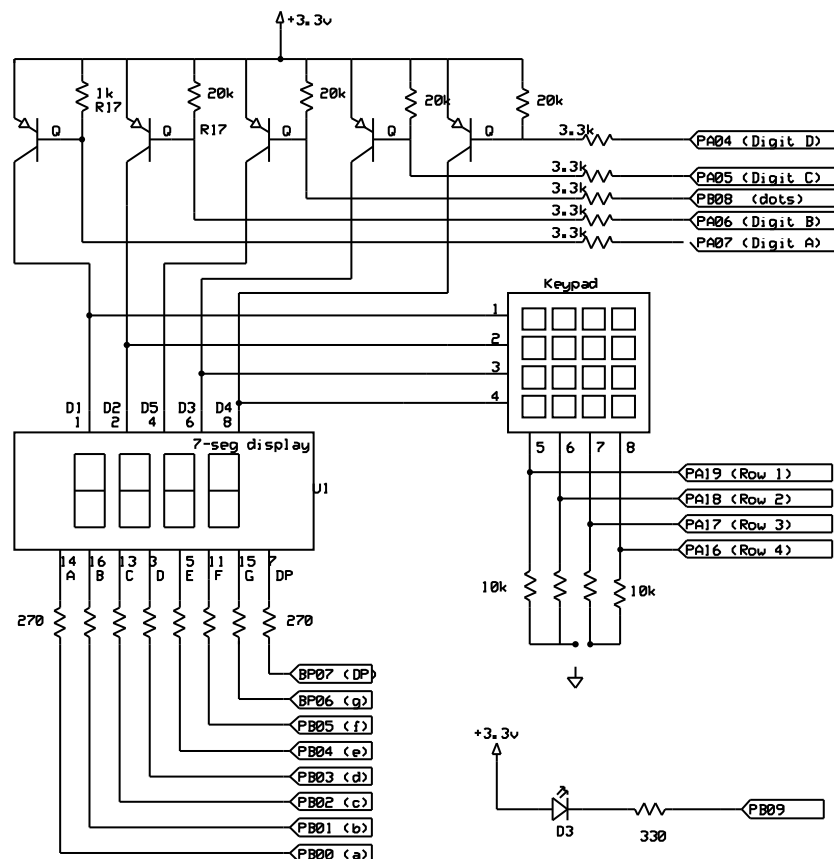

Figure 1.1
Students will develop a calculator using the keypad and 7-segment display as the input/output devices. As a minimum, the calculator should be able to **add** and **subtract** two integer numbers (**with sign**). The digit key “#” will represent the 'add' (+), “\*” will represent subtraction (-), "A" as the equal (=) and, and "B" as backspace. Do not worry about consecutive add and subtract operation as well as over/underflow (more than 9999 or less than -9999) condition. Extra credit will be given to project with additional functions or features such as implementing leading zero blanking, multiple, divide, decimal point or floating point. Figure 1.1 shows the schematic of the keypad and 7-segment display circuit and their connections to the SAMD20 board.
- Once an input is read from the keypad, the input needs to be displayed onto the 7-segment display. Pins PB00 to PB06 are connected to A to G respectively with the decimal point (DP) connected to pin PB07. Digit 1 to Digit 4 are connected to pins PA04 to PA07 respectively. The three extra dots in the display are connected to a common anode. This common anode is connected to the 5th transistor.
- As shown in Figure 1-1, there is a discrete LED that is positioned to the left of the 7-segment display. This discrete LED can be used as the sign of the displayed number.